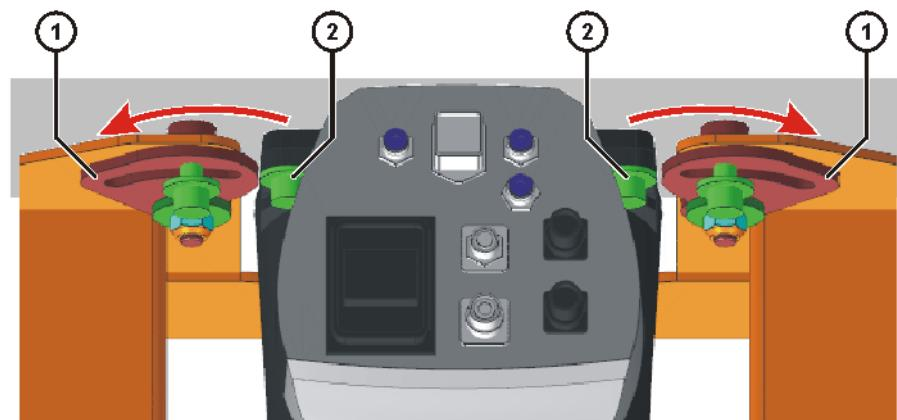

Fig. 8-13: Rotating the swivel holders outwards
15. Rotate the swivel holders outwards (>>> Fig. 8-13).